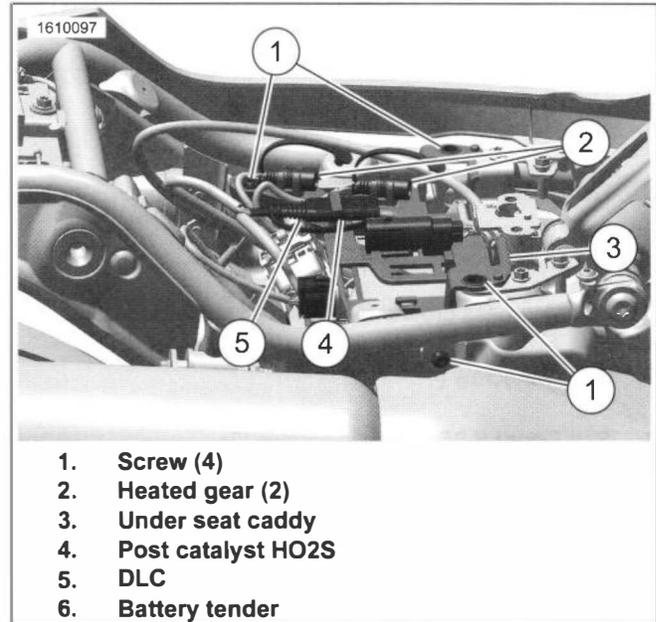

Figure 8-83. Under Seat Caddy
1. See Figure 8-83. Detach connectors from under seat caddy.
- a. Heated gear (2).
- b. Post HO2S (4) (if equipped).
- c. DLC (5).
- d. Battery tender (6).
2. Remove screws (1).
3. Remove under seat caddy (3).
2. See Figure 8-83. Position under seat caddy, install screws. Tighten.